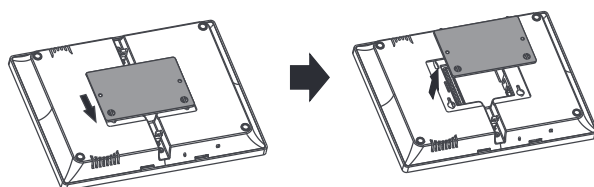

Figure 2-1
A. Push the bracket downward and separate it from the main panel, as shown in Figure 2-1.